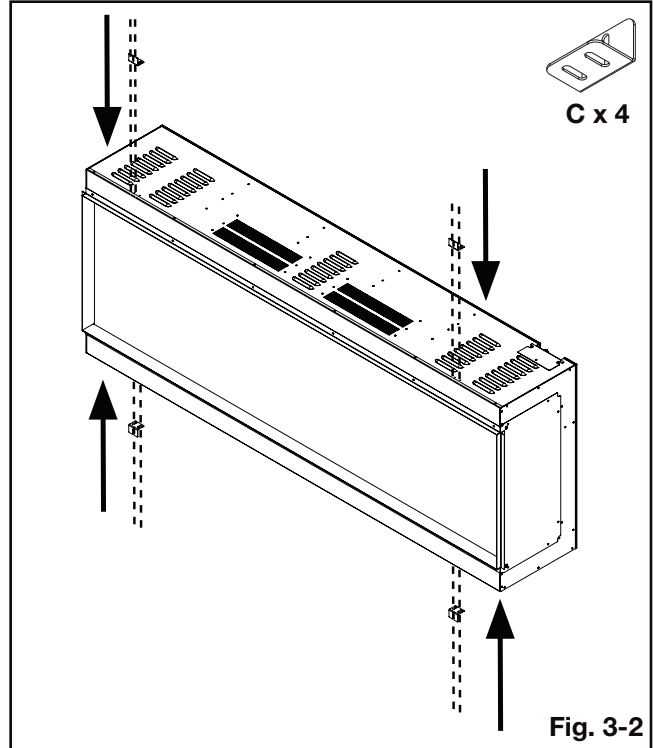

Fig. 3-2
2. Install the 4 metal brackets (supplied) using the 8 screws and washers previously removed (**Fig. 3-2**).